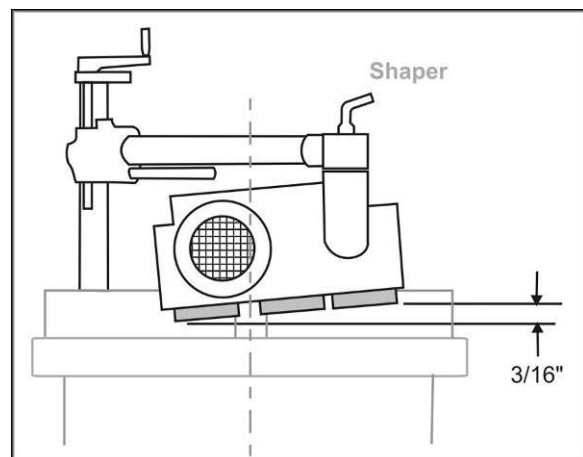

Figure 17
- When the Stock Feeder is in edgewise position, it must be inclined slightly towards the work table in the direction of feed, to ensure the workpiece remains forced down against the table. In other words, the outfeed roller should be approximately  $3/16''$  closer to the work table than the infeed roller. See Figure 17.
- When the Stock Feeder is in the edgewise position, or angled for a beveled workpiece, the axis of the cutter should be between the outfeed roller and the center roller. See Figure 17. The center roller should NOT be directed toward the opening between the fences, but should act directly against the fence.